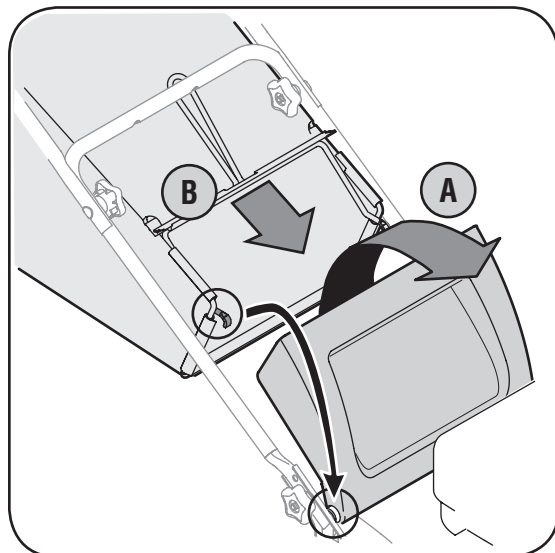

Figure 3-4: Lift discharge door and place grass catcher on rod.
7. To attach grass catcher, refer to Figure 3-4.